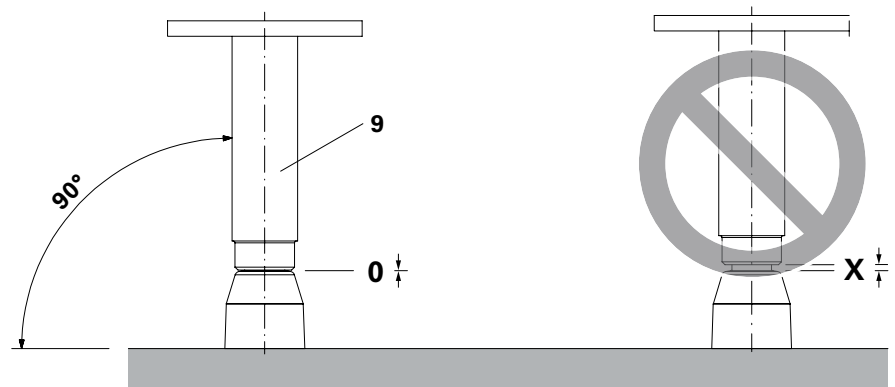

Fig. A3.05
3. Screw in Anchor Sleeve M24 (9) as far as possible, at 90° to the formlining. (Fig. A3.05)
4. Secure the Anchor Sleeve M24 (9) in the reinforcement with tie wire to ensure that it does not change its position during concreting.